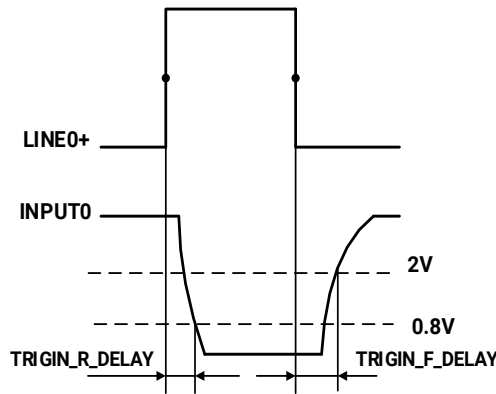

Figure 7-5 Parameter of opto-isolated input circuit
- Rising edge delay: <50μs (0°C~45°C), parameter description as shown in Figure 7-5
- Falling edge delay: <50μs (0°C~45°C), parameter description as shown in Figure 7-5